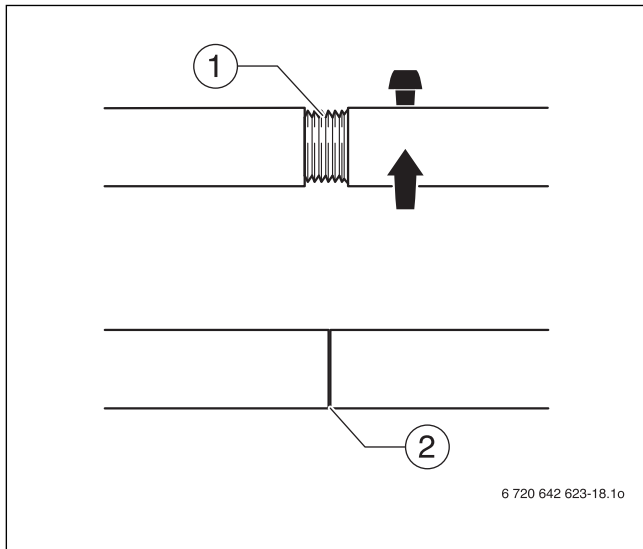

Fig. 17 Boiler assembly tool 2.3
- ▶ Always check the tie rods before each use and retighten as necessary. The tie rod is correctly positioned if it is fully inserted and no threads are showing (→ Fig. 17, [2]).
- ▶ Always keep the threads (→ Fig. 17, [1]) clean. Dirty threads may damage the assembly tool during compression.